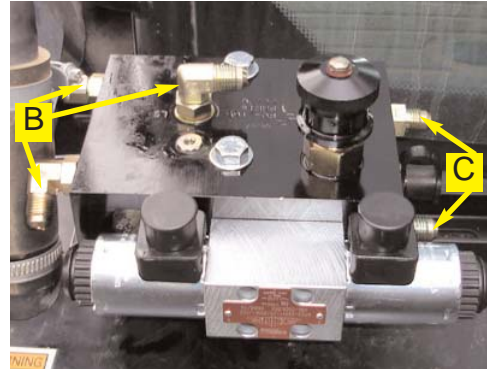

Figure 1. Prepared automated steering block.
- a. Make sure the automated steering block (A) is clean and dust free.
- b. Install the elbow adapter fittings (B) into the LS, A and B ports of the automated steering block. (Figure 1.)
- c. Install the straight adapter fittings (C) into the P and T ports. (Figure 1.)